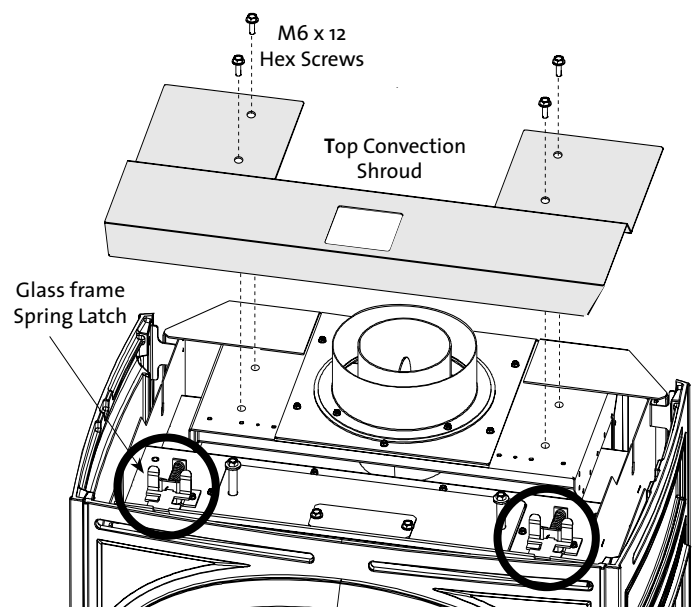

Figure 2.2. Remove the Top Convection Shroud and disengage the glass frame latches.
- a) Remove four hex head screws using a 10 mm wrench and disengage the Top Convection Shroud from the top of the firebox. See fig. 2.2.
b) **Remove the Glass Frame** by disengaging the two spring latches located on top of the firebox as in fig. 2.2. Pull each handle forward to clear the latch from the notch in the frame and lift the frame straight up out of the stove.